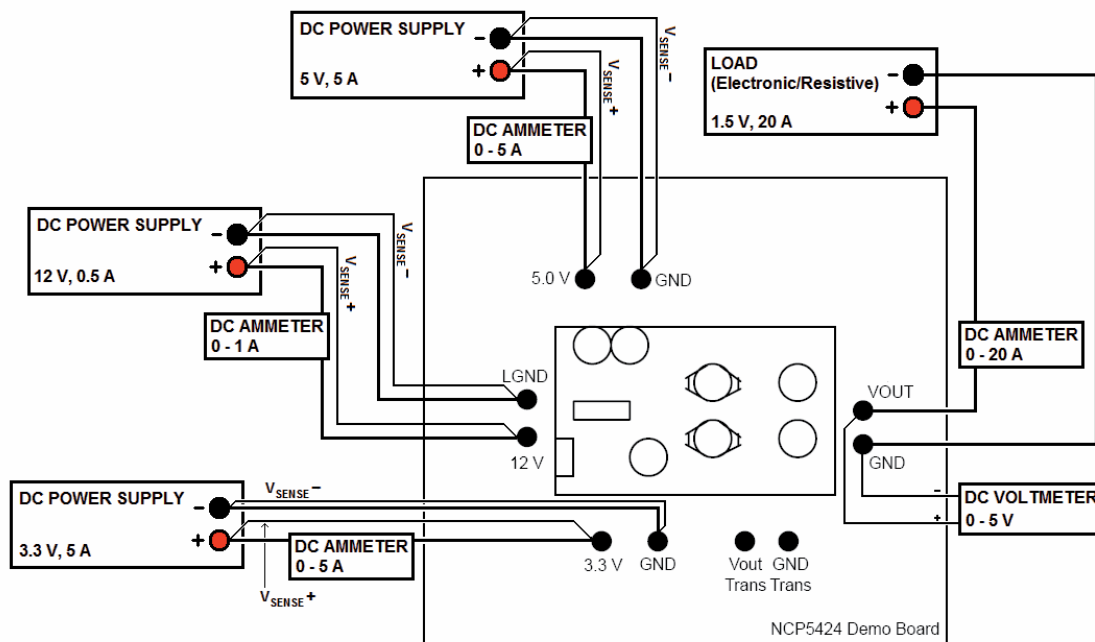

Figure 1. NCP5424EVB Test Configuration.
- 3.1** Configure equipment as shown in Figure 1. Set current limits for DC supplies as listed in section 1.0.